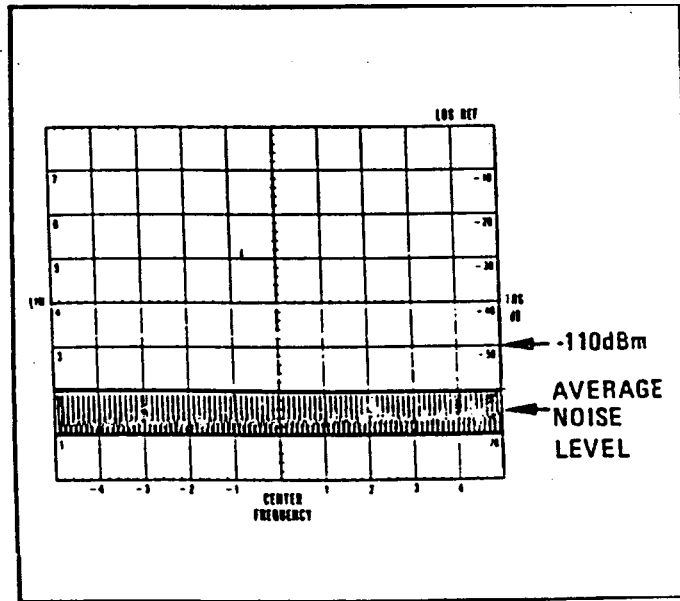

Figure 8. Noise level limit indication.
- (2) Position IF plug-in controls as listed in (a) through (h) below:
(3) Slowly adjust **FREQUENCY** control from 110 to 1 MHz while observing display. Average noise power level will be lower than -110 dBm (as shown in figure 8).